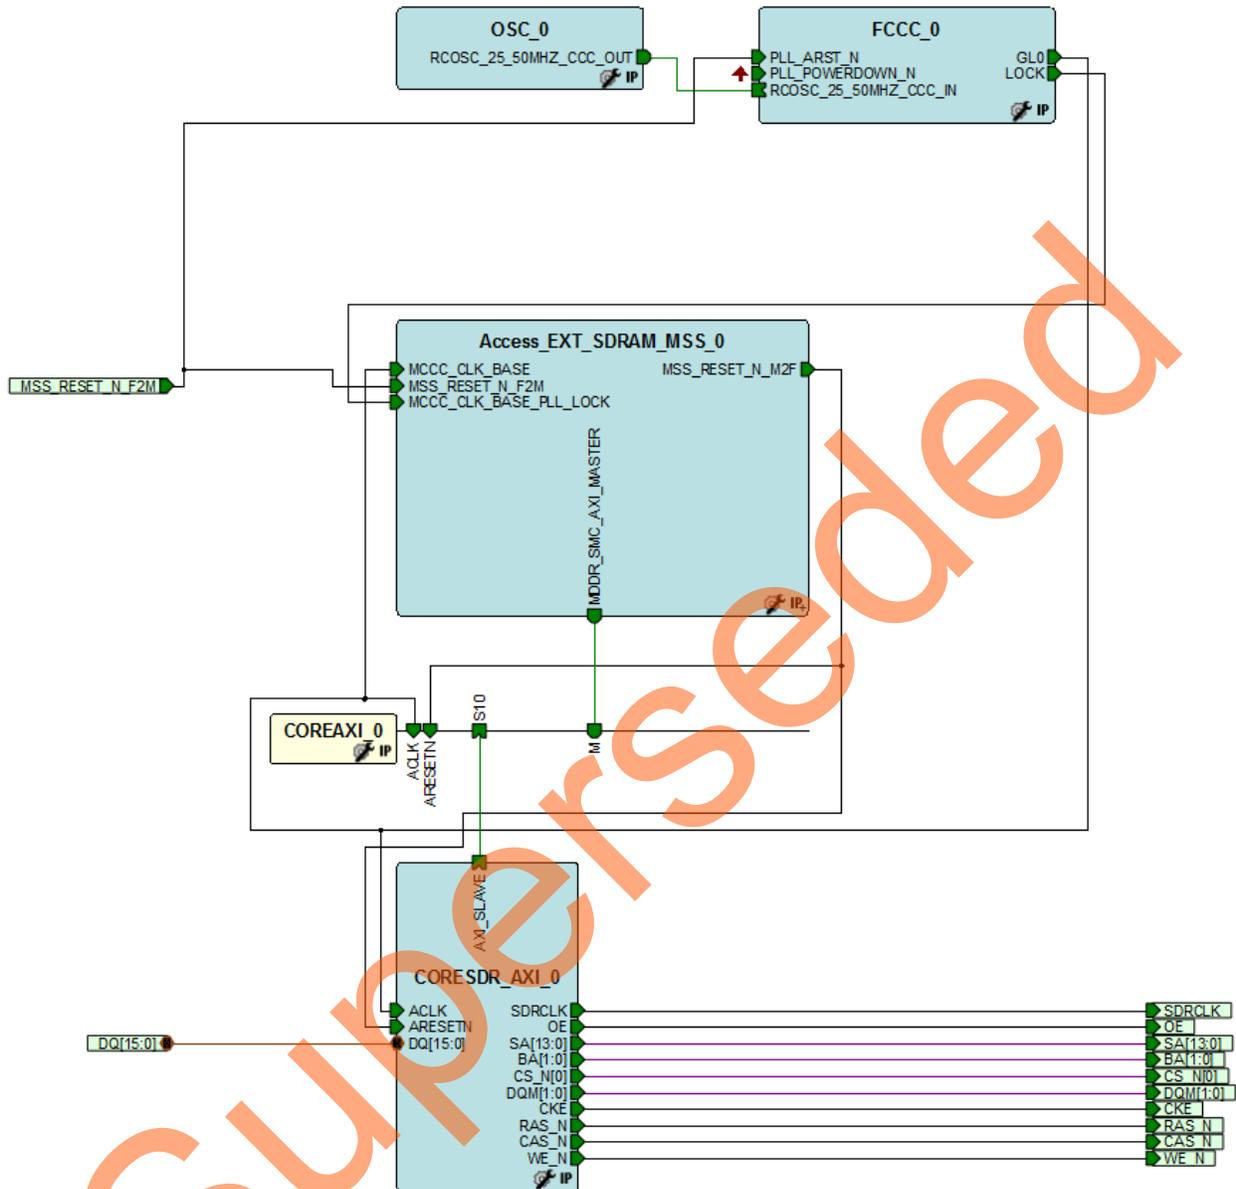

Figure 24. After Making the Top-Level Connection
- Click **Auto arrange instances** to arrange the instances, as shown in Figure 24. Save the design by selecting **File > Save**.